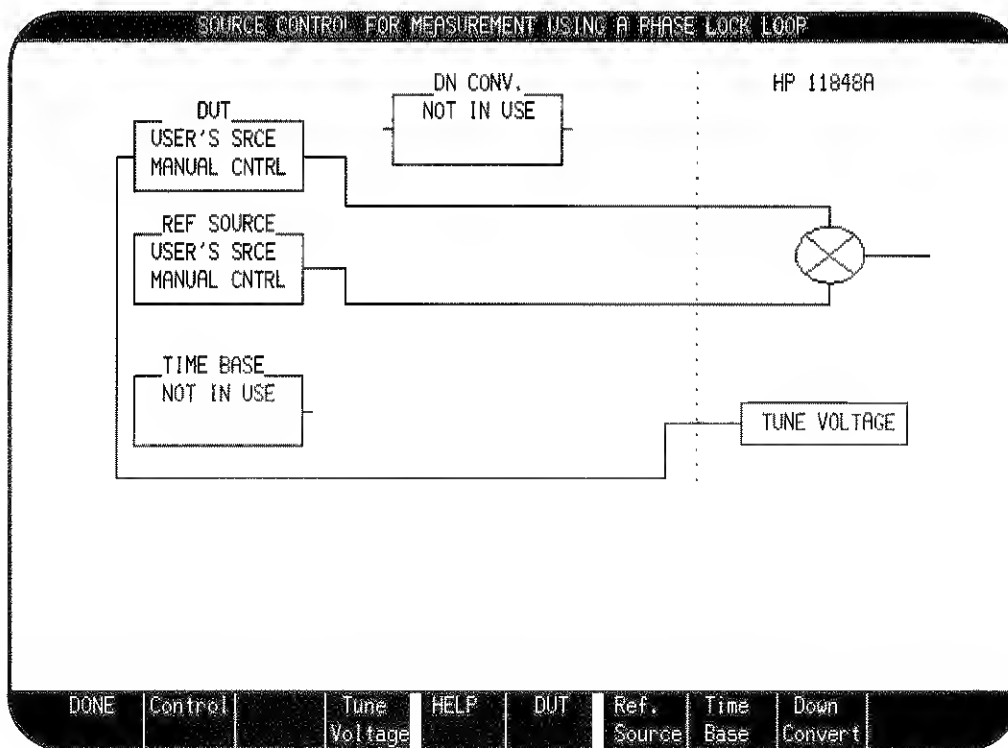

Figure 3-13. Source Control for Measurement Using a Phase Lock Loop Menu
9. On the HP 3048A press the **Source Control** softkey to obtain the Source Control for Measurement Using a Phase Lock Loop menu. Set the various devices in the system as shown in figure 3-13. When done, press the **DONE** softkey.